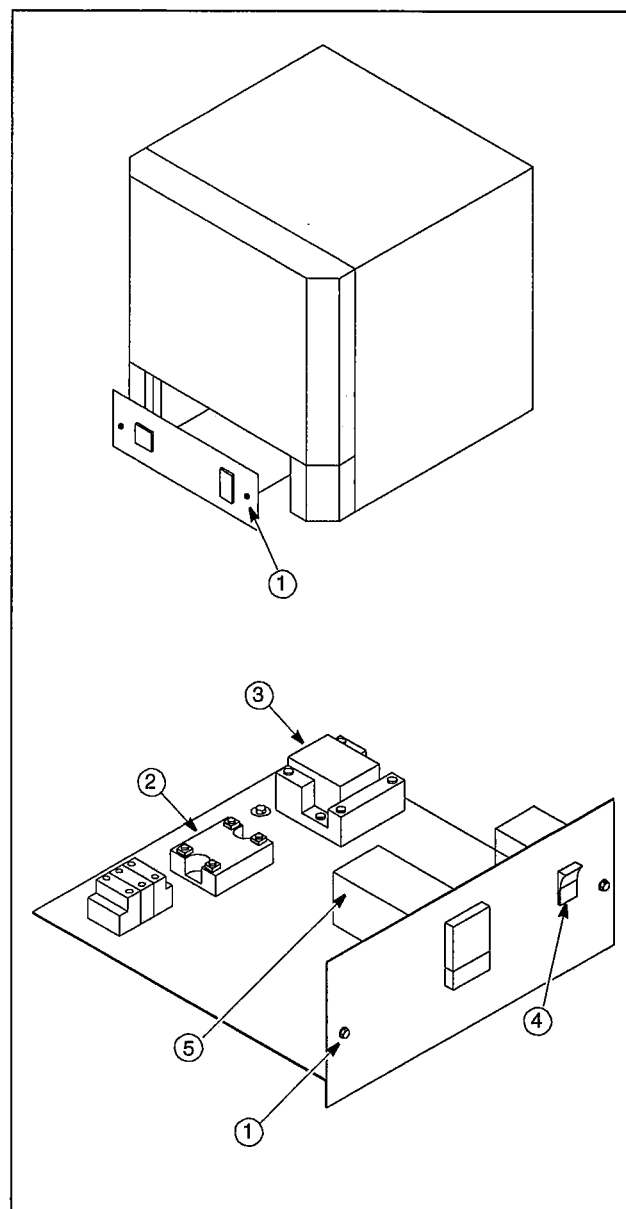

Figure 5. Solid State Relay Replacement
Refer to the Troubleshooting section for relay testing. If the solid-state relay is inoperable, complete the following steps to replace the relay (refer to Figure 5):
1. Remove the screws located on the left and right sides of the control panel (item #1 in Figure 5).
3. Locate the solid-state relay on the component tray (item #2 in Figure 5).
Refer to the Troubleshooting section for power relay testing. If the power relay is inoperable, complete the following steps to replace the relay (refer to Figure 5):
3. Locate the power relay on the component tray (item #3 in Figure 5).
To replace the entire controller, complete the following steps (refer to Figure 5):
1. Disconnect the main power and switch the circuit breaker (#4 in Figure 5) to the OFF position.
2. Remove the two sheet metal screws located on each side of the furnace near the lower front (#1 in Figure 5). Pull the control panel forward to access the controller (#5 in Figure 5).